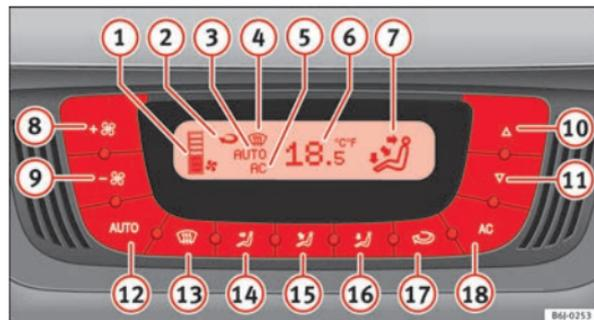

Fig. 96 Climatronic controls on the dash panel
- Press keys **10** and **11** ⇒ fig. 96 to adjust temperature.
- Press the button . The indication  $\Rightarrow$  fig. 96  is visible.
- Press keys  and   $\Rightarrow$  fig. 96 to adjust the desired temperature inside the vehicle. We recommend 22 °C (72 °F).
- Press one of the buttons  $\Rightarrow$  fig. 96  to  or press the blower control  and  down. The indicator is switched off .
The blower can be adjusted with buttons  and   $\Rightarrow$  fig. 96. If the blower is off (level  is not shown on the screen) and button  is kept pressed down, the Climatronic switches off. Then **OFF** is displayed on the screen.
- Press the button  to switch air recirculation mode on or off. This is ON if the symbol  => fig. 96 is displayed on the screen.